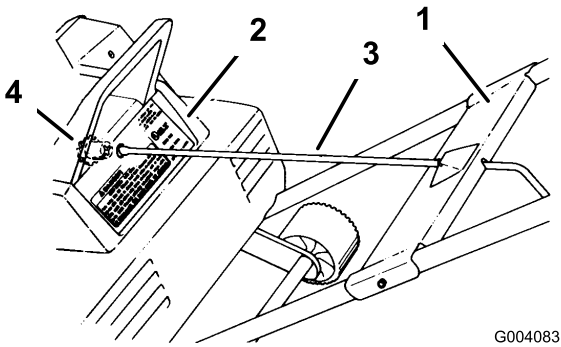
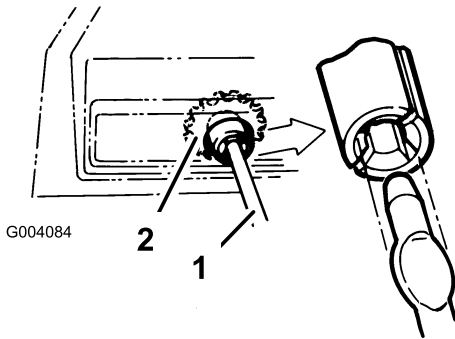

Figure 4
Figure 5
6. Place the mounting plate over the tubes (Figure 4).
9. Turn the chute crank rod slowly until the flattened end drops into the slot in the gear, then firmly push the chute crank into the gear until it snaps into place (Figure 4 and Figure 5).